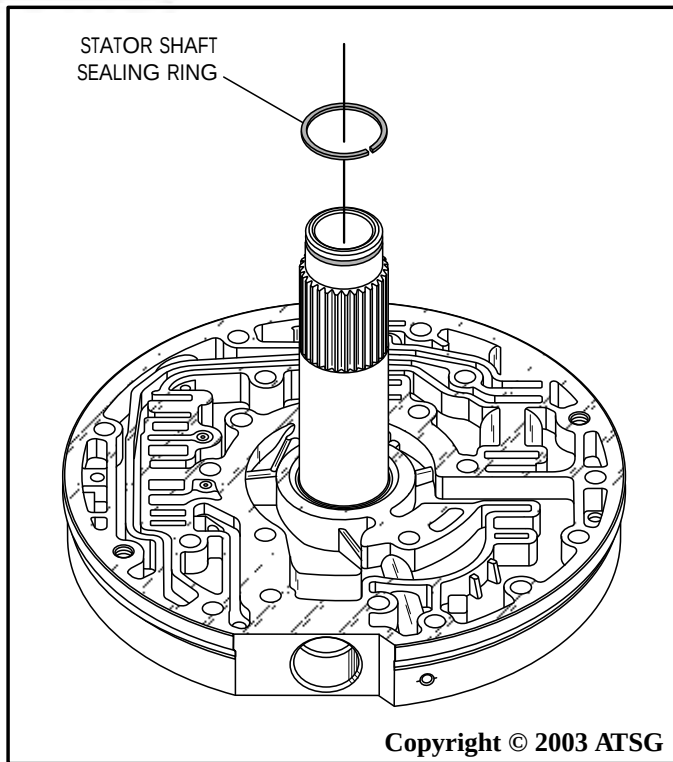

Figure 167
14. Turn the oil pump cover over and install the sealing ring on the front of the stator shaft, as shown in Figure 167, and ensure that it is free turning in the groove.